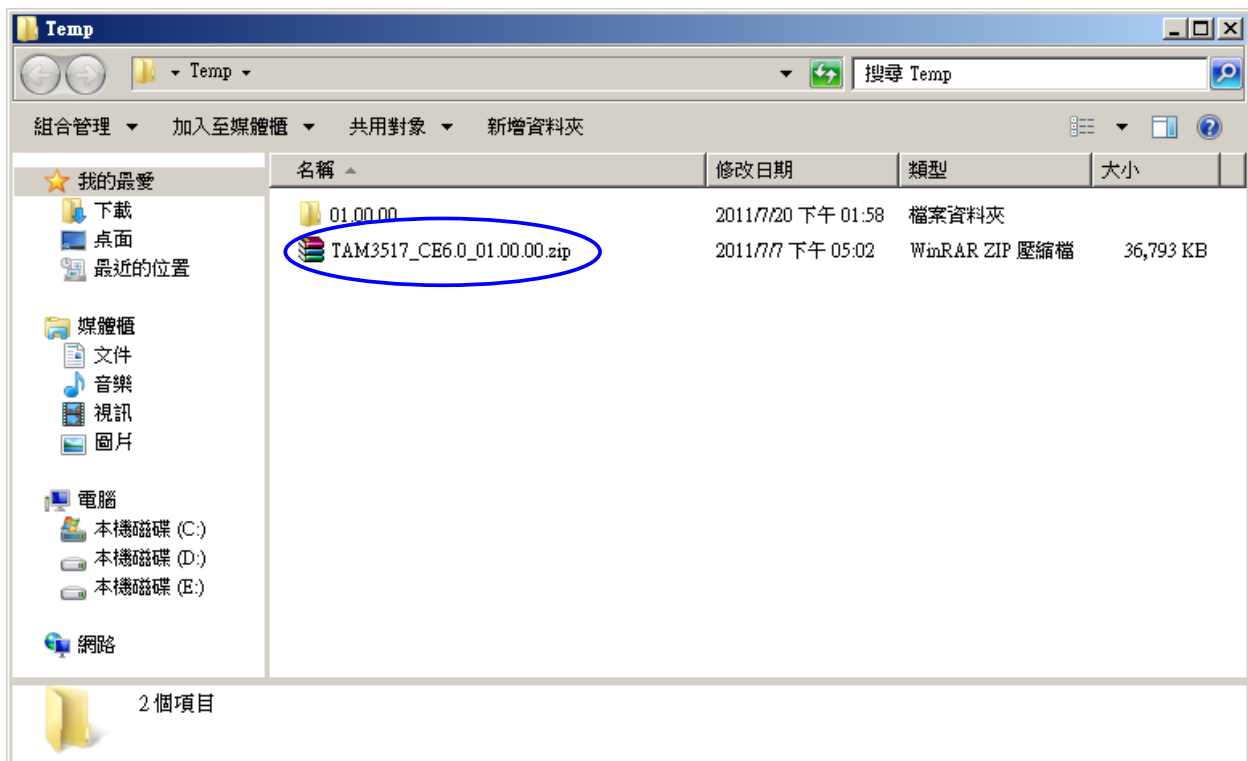

Figure 1
- Decompress the downloaded file. (See figure 1)